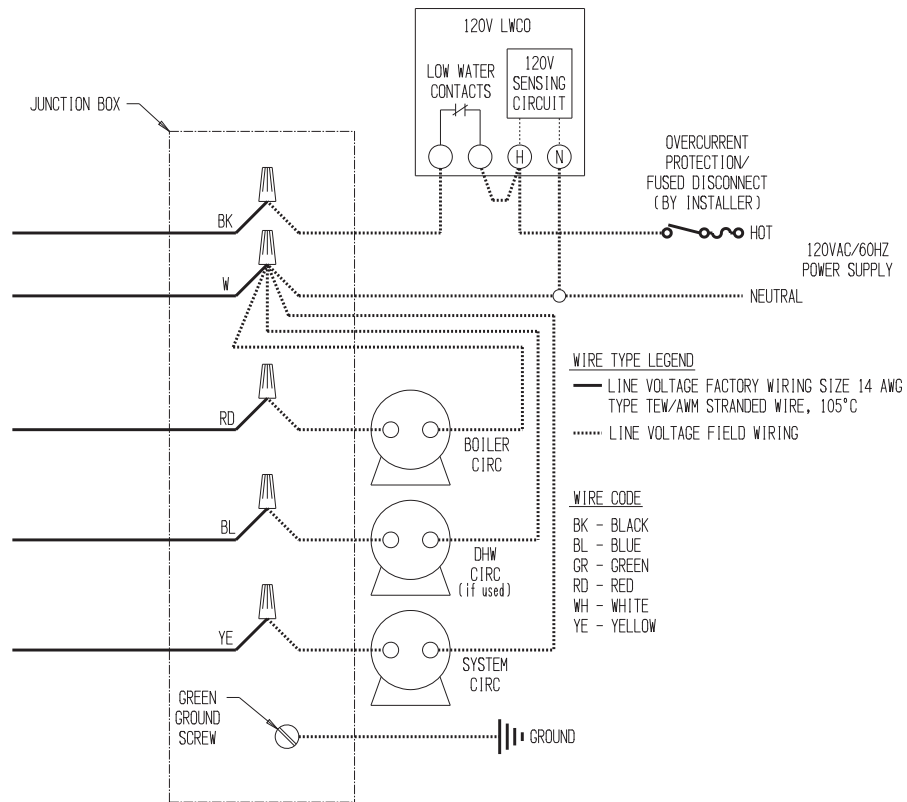

FIGURE 10.4a: 120V LWCO FIELD WIRING
- A 120V LWCO may be wired to break 120V power to the boiler (Figure 10.4a)